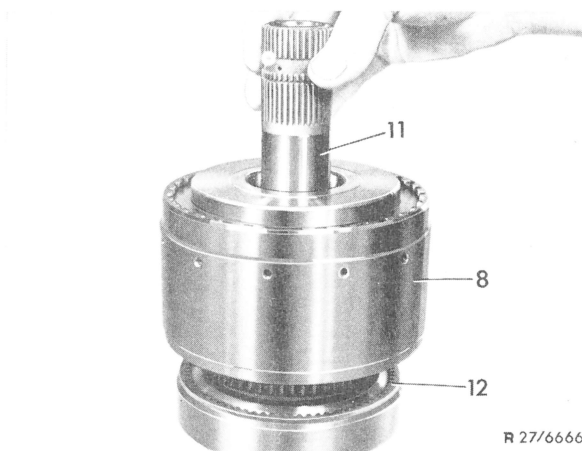

Fig. 7
9 Remove hollow shaft (11) with clutch K 2 (8) from intermediate shaft (12) (Fig. 7).
21 Insert piston into supporting flange (8) (Job No. 27.2-690, Fig. 7).